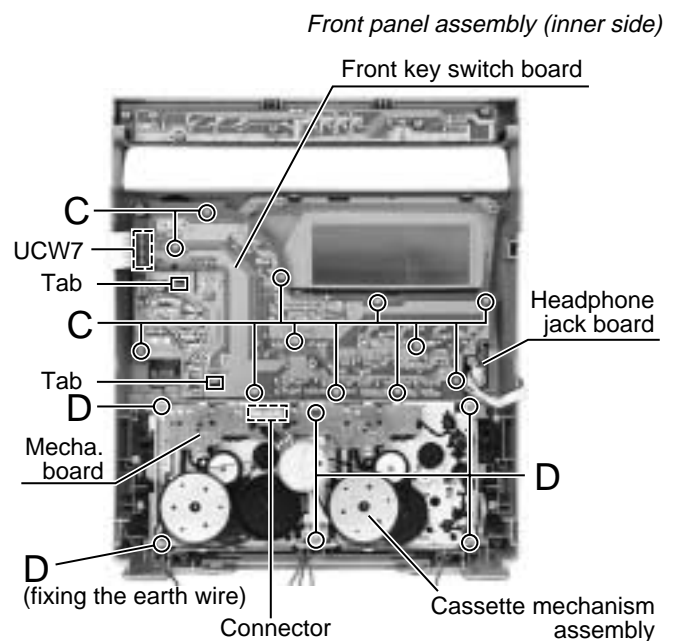

Fig.3
■ Removing the headphone jack board (See Fig.3)
■ Removing the cassette mechanism assembly (See Fig.3)